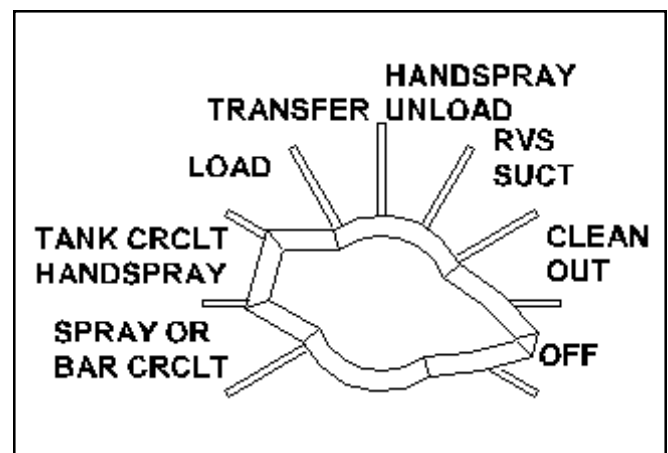

FIGURE 3 - Mode Selection Switch
3. Turn the Mode Selection switch (Figure 3) to OFF.
3. Turn the Mode Selection switch (Figure 3) to TANK CIRCULATE/HANDSPRAY.